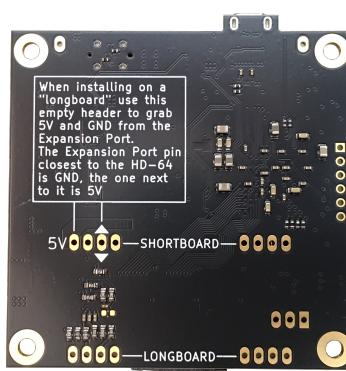

Figure 2. HD-64 (Bottom)
- The RF-Modulator headers on Shortboard and Longboard are in different positions and have different pinout. The appropriate pin header to use is clearly marked on the bottom of the board as shown in Figure 2